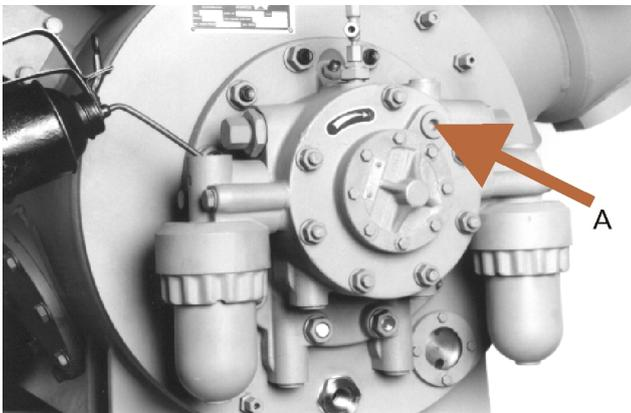

Fig.166: Oil filters and location oil charge valve (A); not shown!
1. The following components have to be filled with oil before starting up via the oil charge valve, mounted on the oil pump, refer Figure 166, Page 66:
2. Oil suction filter(Figure 166, Page 66 ,left filter): Charge through the filling openings or prelubricating valves (if present) on the top of the filter housing.